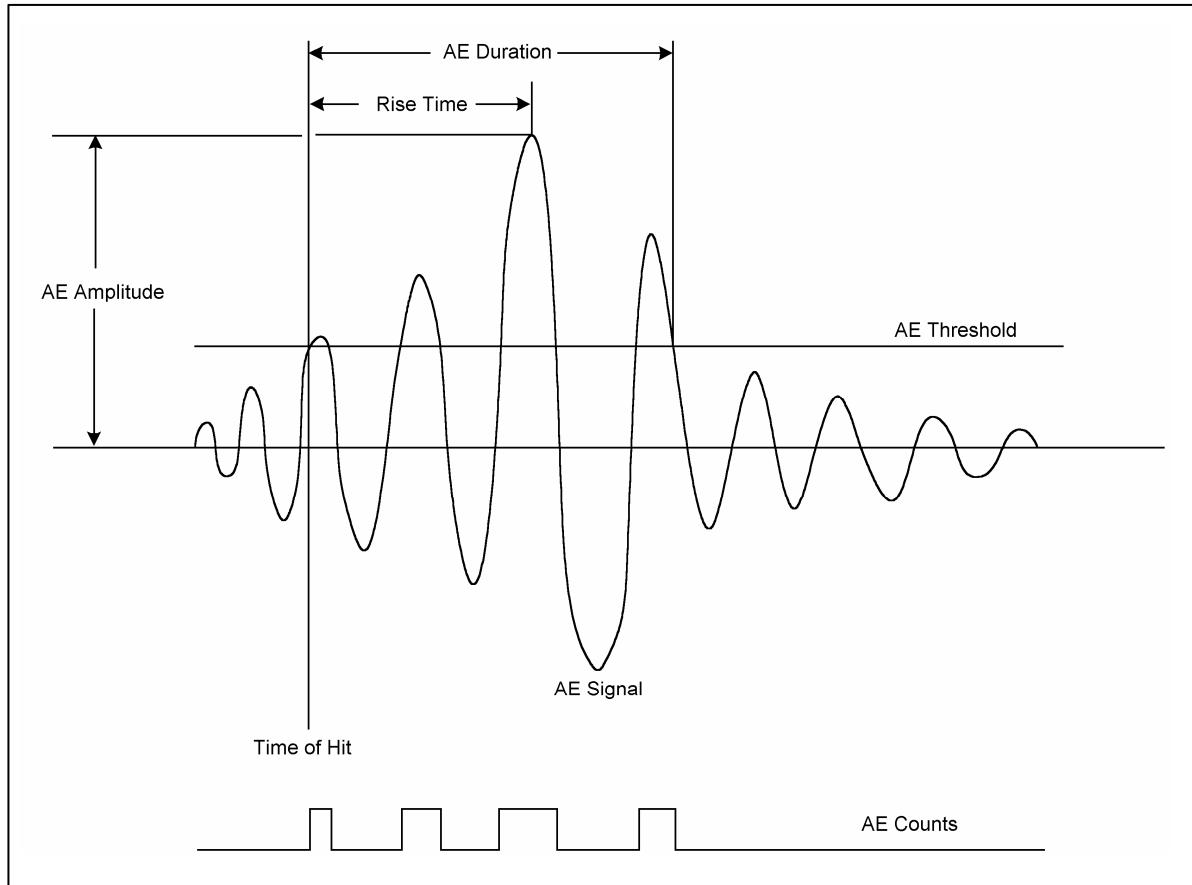

Figure 9. AE Hit Feature Extraction diagram
Referring to the Hit based features, this section tries to provide a better definition as to what exactly each feature means to the AE user. Figure 9 shows a fictitious Acoustic Emission waveform with some of the AE features superimposed on the waveform.
Following along with figure 9, the following features can be seen and described.
- Counts:** (also referred to as AE Threshold Crossing Counts). This AE Hit feature simply counts the AE signal excursions over the AE Threshold. In figure 9, an example shows that 4 AE counts have been generated.
- Rise Time:** Rise Time is defined as the time between the AE Hit start and the peak amplitude of the AE Hit. An example of the rise time measurement is shown in figure 9 for clarity.
- Counts To Peak:** Counts To Peak is a measure of the number of AE Counts between the AE Hit start and the Peak Amplitude of the AE Hit. In regards to the example of figure 9, there are 3 Counts to Peak shown in that example.